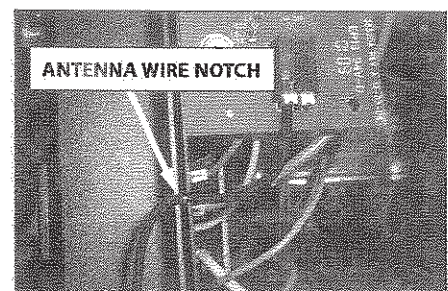

Fig. 4
8. **FEED** antenna wire through slot in rear panel and point downward. **FIG 4**